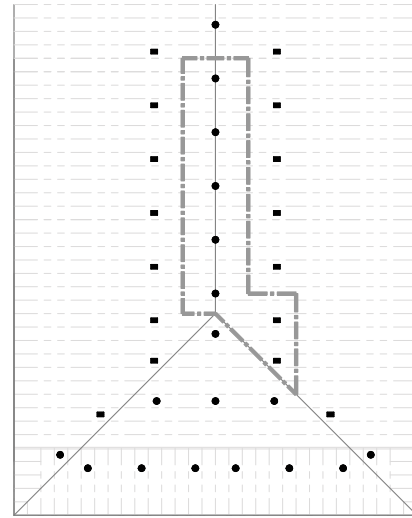

FIGURE 18A
- Calculate the most demanding 7 contiguous sprinklers with a maximum of 5 sprinklers along the ridge plus the 2 most demanding sprinklers within the hip area. See Figure 18A.